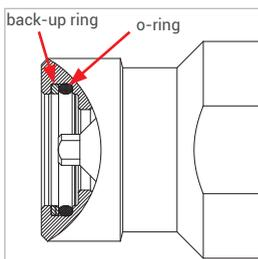

Figure 7
- ▶ Before inserting the receptacle insert (Pos. 7), check both sealing elements (o-ring and back-up ring, Figure 7) for correct installation direction, proper position and damages.